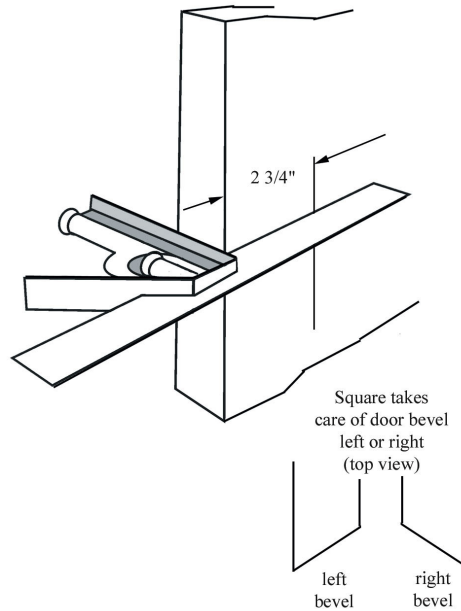

Figure 2-8 – Marking 2 3/4" Setback with Square
- 2.5.1.2.2 Using a square (to compensate for beveled door edges), mark a point along the horizontal line 2 3/4" from the door edge on both sides of the door (Figure 2-8).
- 2.5.1.3.2 Using a square (to compensate for beveled door edges), mark a point along the horizontal line 2 3/4" from the door edge on both sides of the door (Figure 2-8).